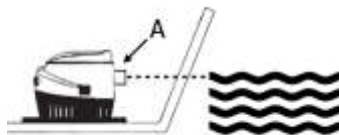

Fig. 2
3. Identify the appropriate location for installation in the bilge (Fig. 2):